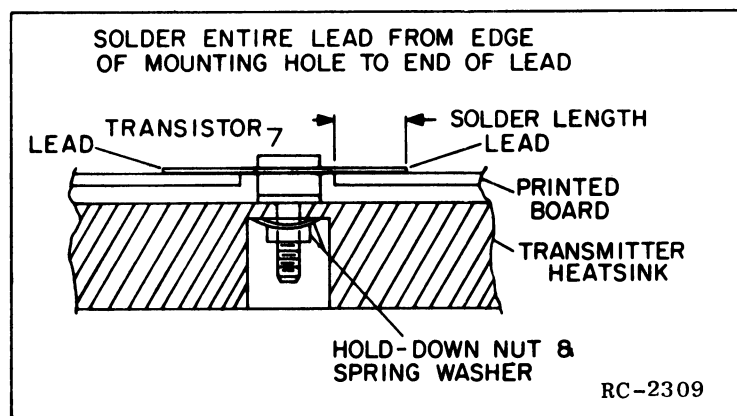

Figure 7 - Lead Forming
6. Make sure that the transistor leads are formed as shown in Figure 7 so that the leads can be soldered to the printed circuit pattern, starting from the inner edge of the mounting hole.